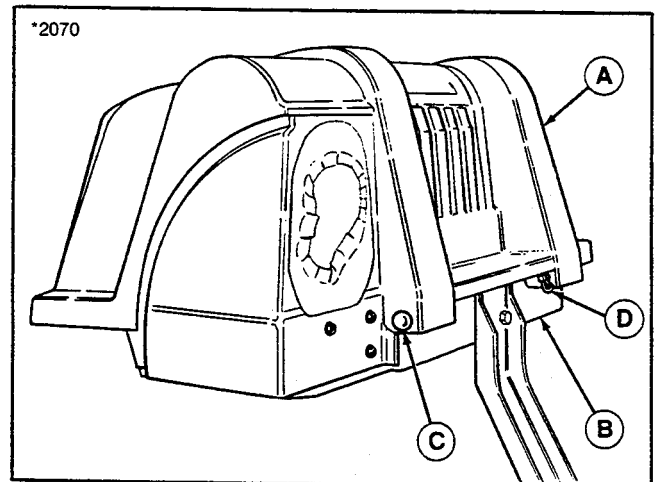

Figure 12.
16. Reinstall grass catcher cover (A, figure 12) to support (B) and secure with clevis pins (C) and clips (D).